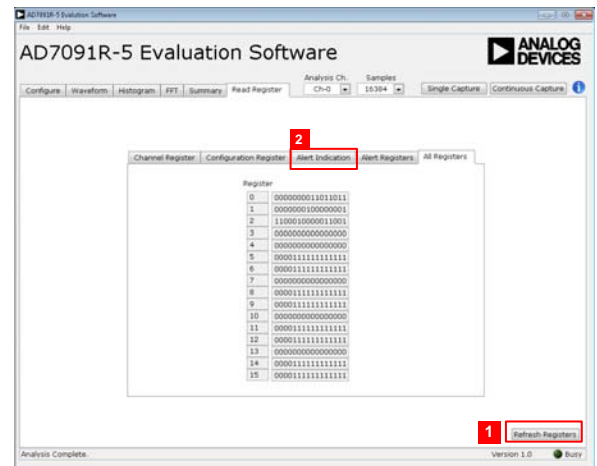

Figure 18. Read Register Tab
All indicators within the **Read Register** tab are automatically updated when this tab is selected. In addition, this tab features a **Refresh Registers** button (labeled 1 in Figure 18) that is useful for monitoring the **Alert Indication** subtab while performing data captures and viewing the **Read Register** panel.
The **Read Register** tab as shown in Figure 18 offers the following subtabs:
- The **Alert Indication** tab (labeled 2 in Figure 18) indicates the current high and low alert status of individual